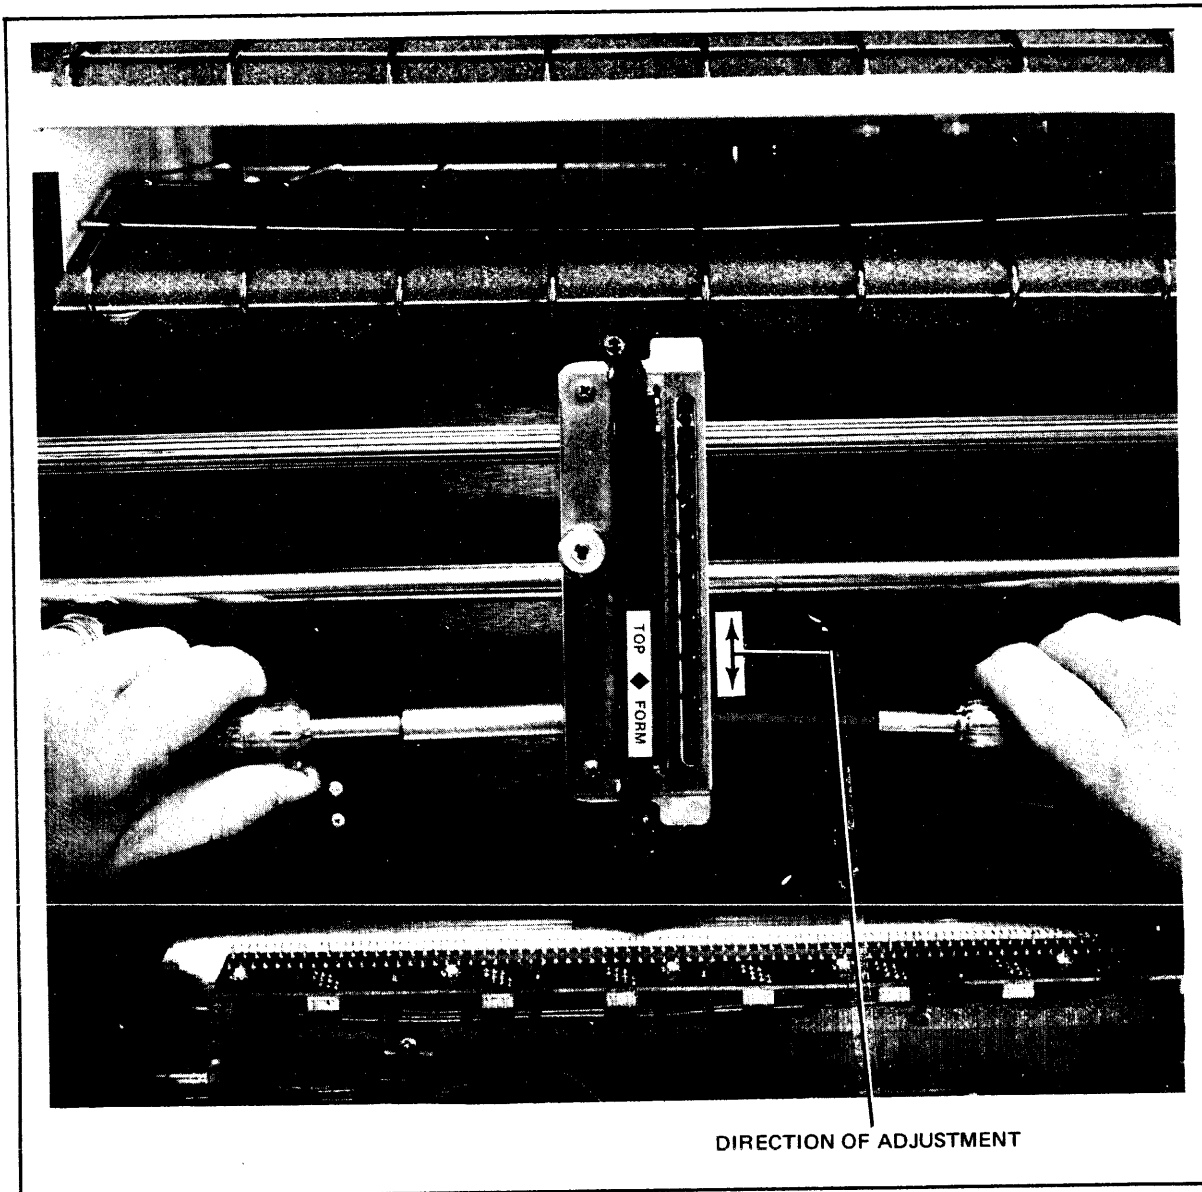

Figure 64 Adjusting Tractor Belt Tension
- b. Hold hex nut at outer side of lower sprocket wheel hub and, with an Allen wrench wrench, loosen screw on inner side of hub (figure 64).